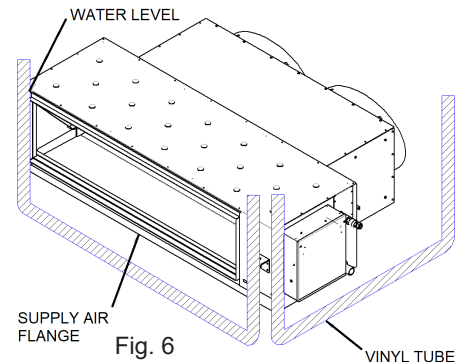

Fig. 6
- (3) Make sure the unit is level.
- Check if the unit is level at all four corners with a water level or a water-filled vinyl tube as shown in the diagrams. (Fig. 6)
- (4) Tighten the upper nut.